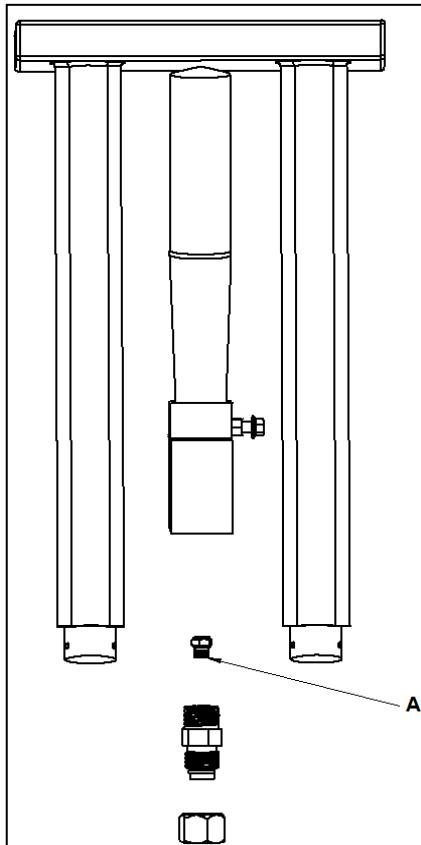

Figure 1
2. Replace the "A" injector with the injector suitable for the type of gas to be used, taking into account the values in the table. (Figure 1)